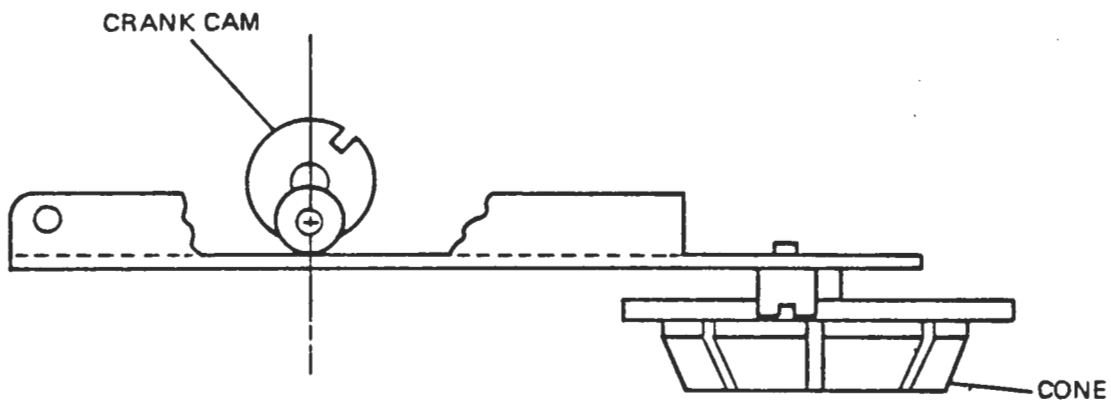

Figure 6-13B. Eject Motor Cam Alignment Check - Carrier Closed
- c. Observe the crank cam moves to a bottom dead center position relative to the carrier plane, i. e. , maximum penetration of cone assembly into hub. (Figure 6-13B)